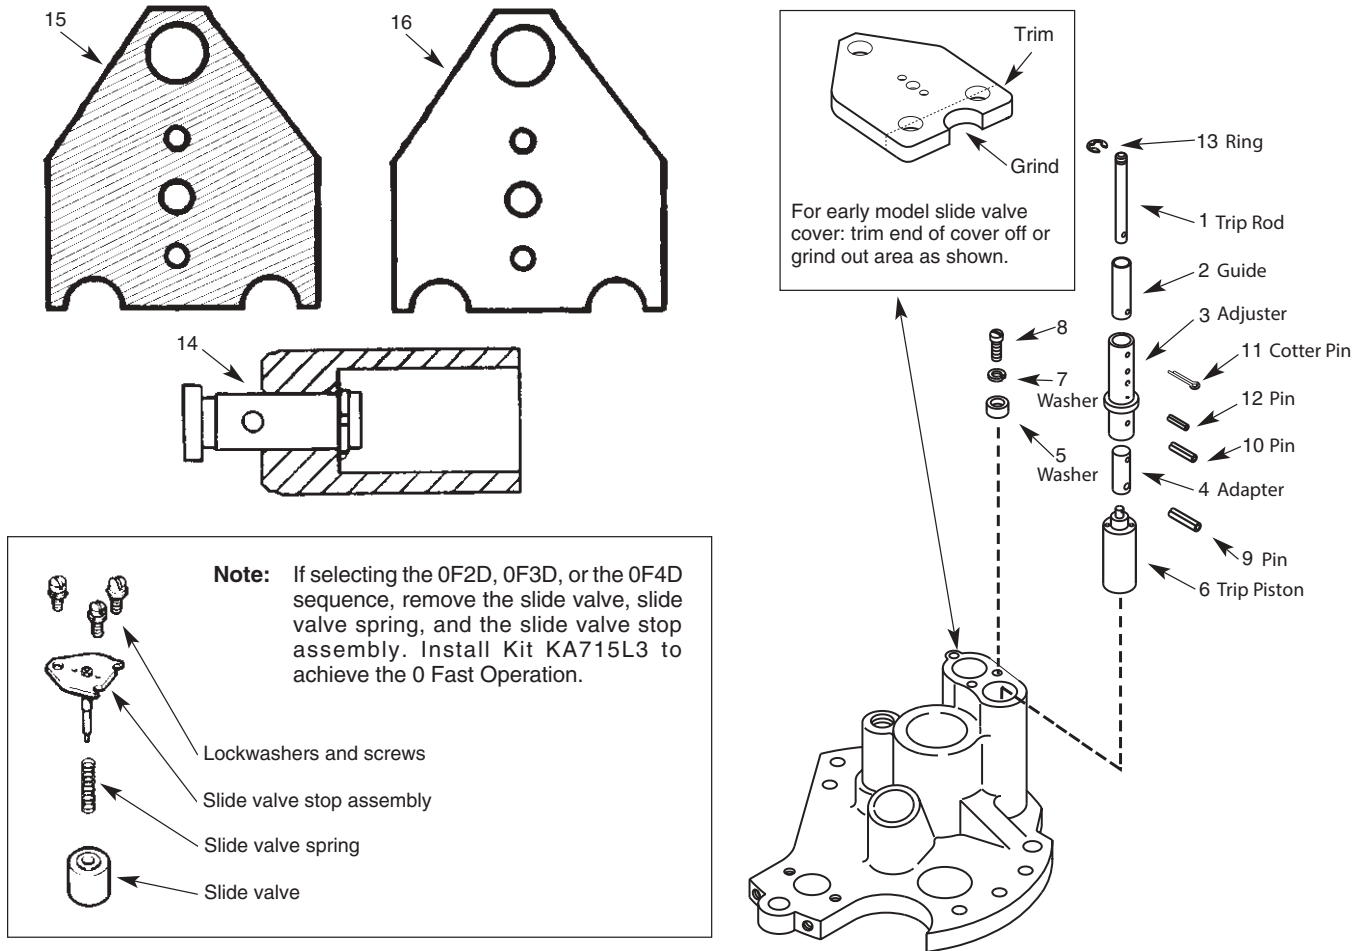
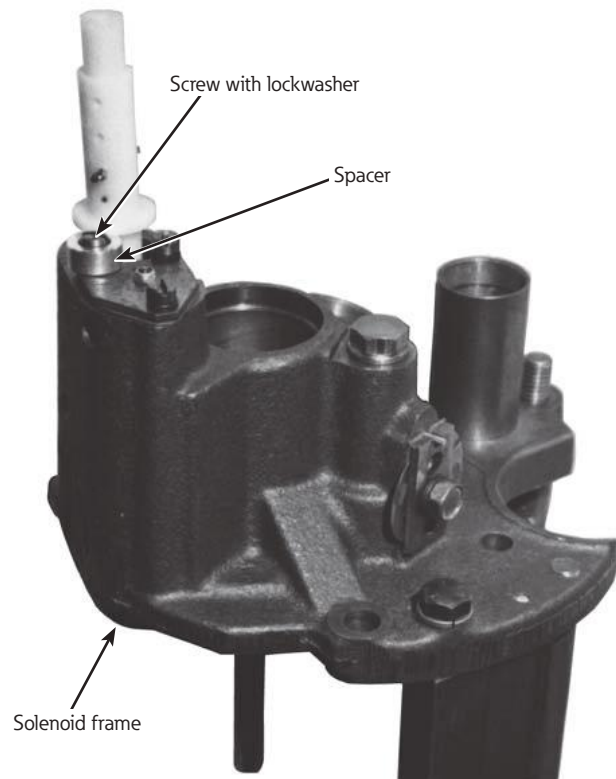

Figure 2. Sequence selector kit parts
Figure 4. Trip spacer
7. Referring to Figure 2 and Figure 4, reassemble the trip piston assembly as follows:
- a. Remove the outside screw (Figure 2, item 1) (away from the trip plunger) and lockwasher.
- b. Position the lockwasher and trip-adjustment stop onto the new screw (see Figure 2, items 5, 7, and 8).
8. Install the new trip rod (Figure 2, item 1) into the recloser mechanism and secure with a retaining ring (Figure 2, item 13).
Note: For early model slide valve covers, a portion of the cover can be trimmed or ground away to prevent interference with the new trip piston assembly (refer to the inset illustration in Figure 2).